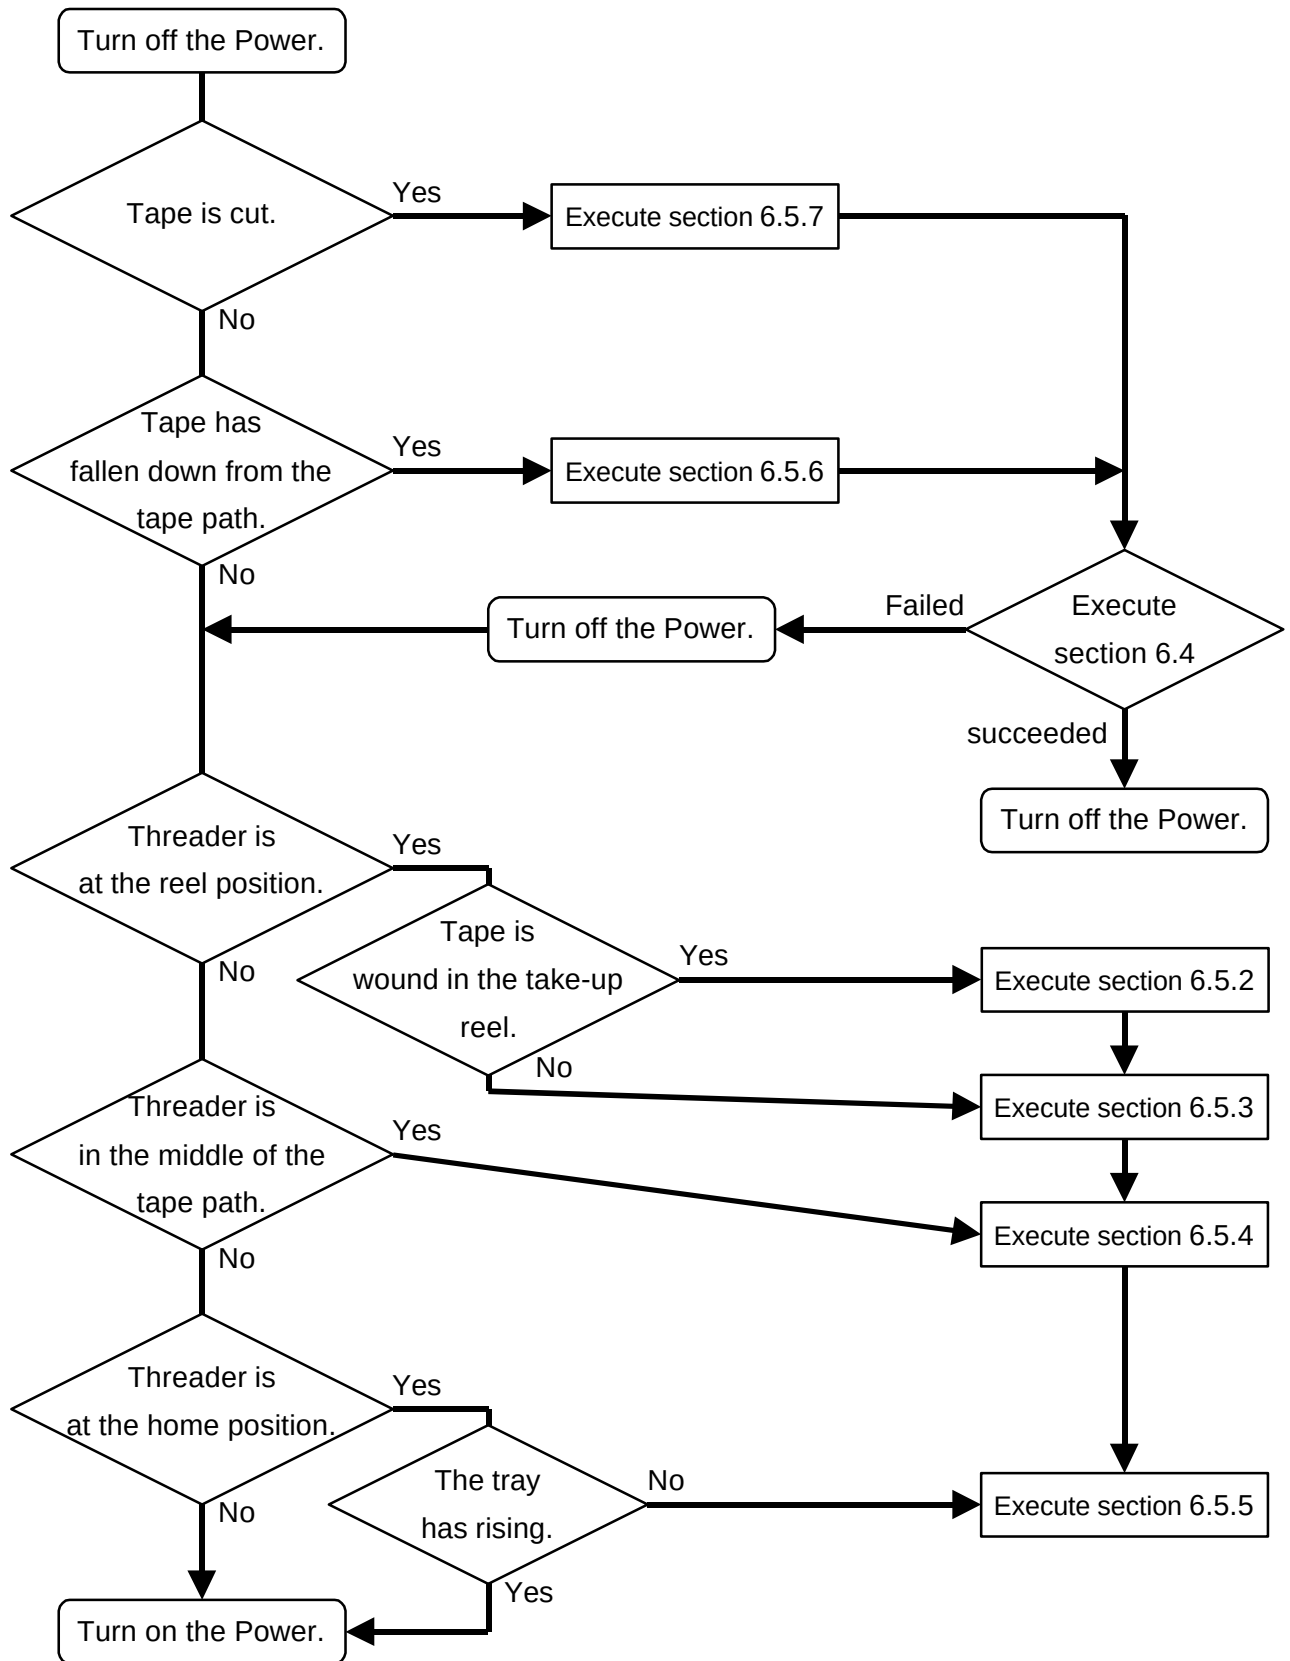
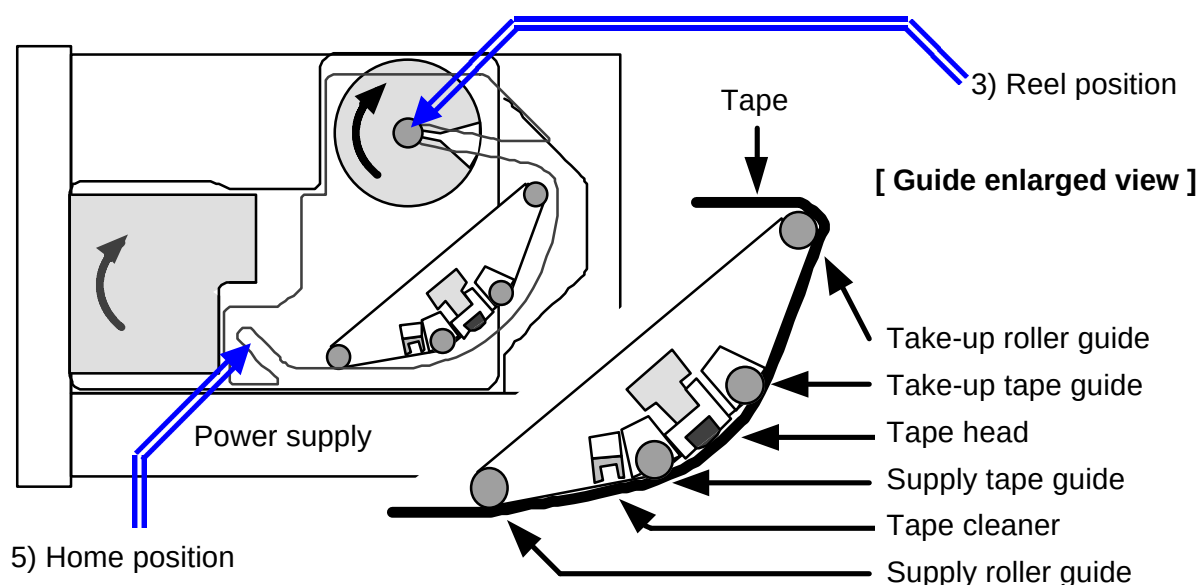

Figure 6-11 Flowchart of Unloading by Manual Operation
Figure 6-16 Tape Path and Tape Guide
When the tape position is determined, select the procedure according to the flowchart in Figure 6-11 and execute the operation.
- 1) Always turn off the power. Place the drive so the power supply is in the bottom position. (Refer to Figure 6-16.) Follow the flowchart in Figure 6-11 after that the tape is returned by placing the drive in this position.
Perform the operations according to conditions of each number, referencing the Figure 6-16 and following the flowchart shown in Figure 6-11.
- 1) Always turn off the power. Place the drive so the power supply is in the bottom position. (Refer to Figure 6-16.)